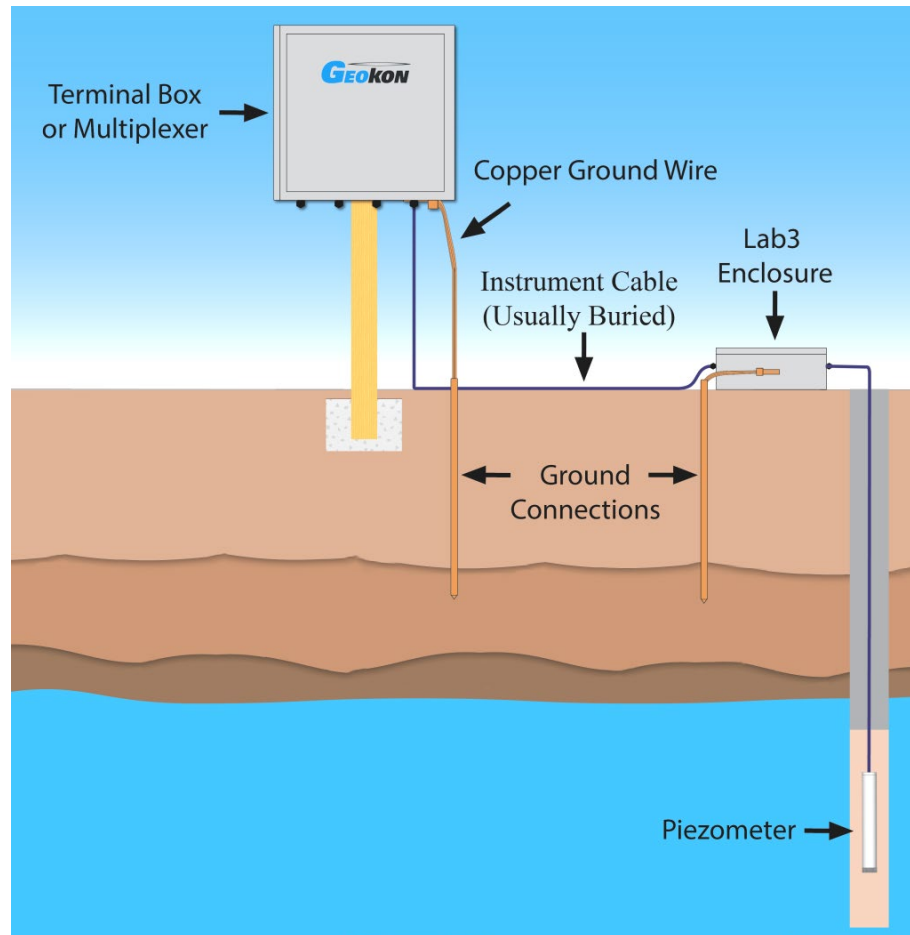

Figure 9 - Recommended Lightning Protection Scheme
- Placing a Lightning Arrestor Board (LAB-3), in line with the cable, as close as possible to the installed piezometer. (See Figure 9.) These units utilize surge arrestors and transzors to further protect the piezometer. This is the recommended method of lightning protection.